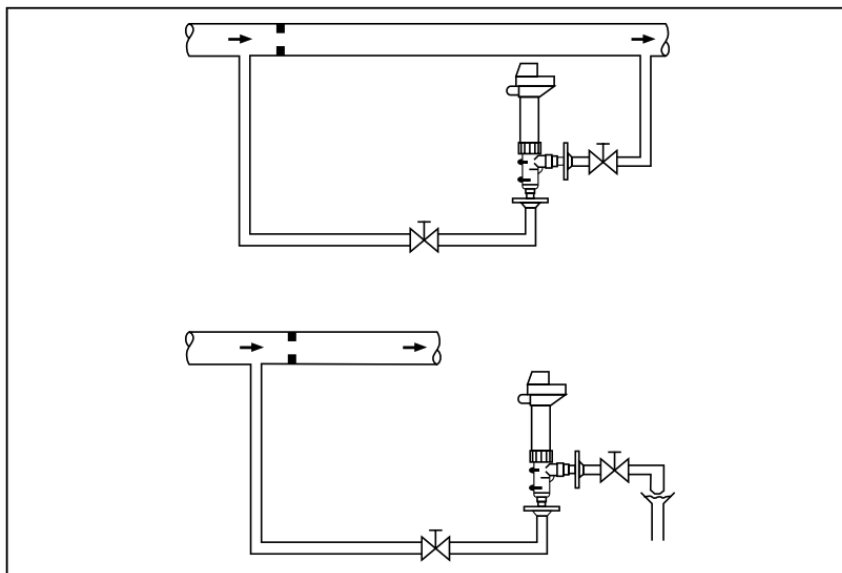

Figure 1: On-line measurement examples
- The Flow Probe is ideal for installation in a bypass (circulation) line or sample loop from a large volume flow line. Preferably the Flow Probe should be mounted between 2 isolation valves and in a position as indicated in figure 1. Mounted in this way maintenance is easy and in flow conditions the tip of the electrode will always stay wetted.